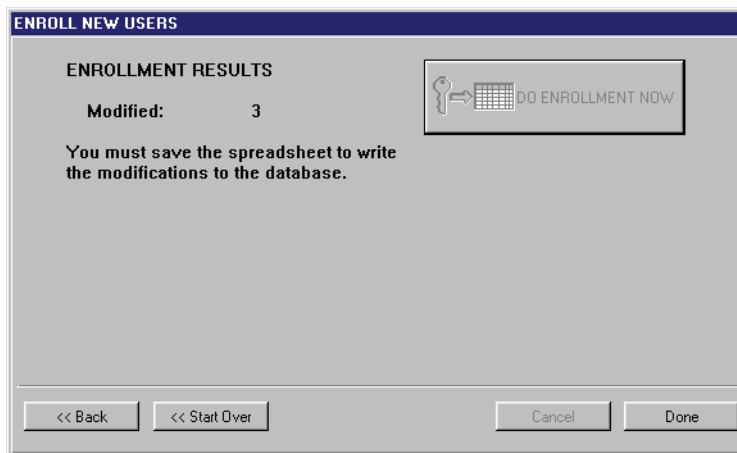

Figure 10-51: Enrollment Results Window - Cards Added
- Once you have verified all the information is correct on the confirmation display, click on the  button. The cards are assigned to the selected spreadsheet rows and the enrollment results are displayed (see Figure 10-51).